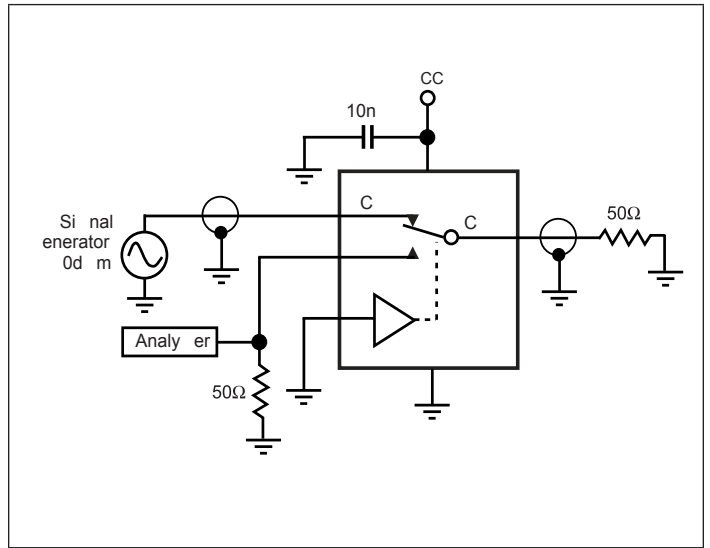

Figure 5. Crosstalk
- Between any two switches. See Figure 5.